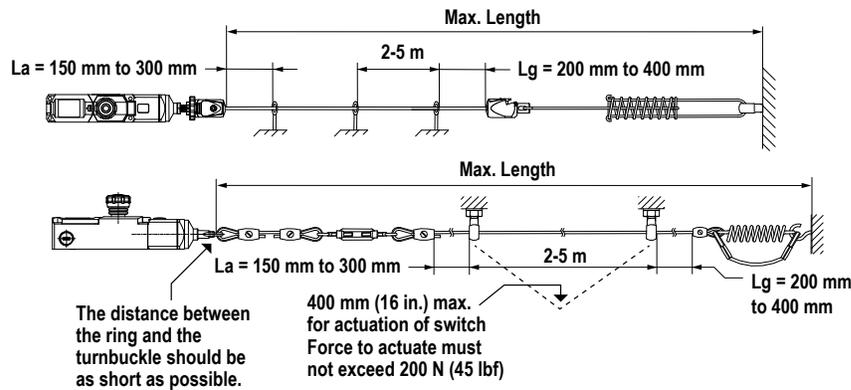

Figure 6. Assembly of Rope and Hardware
- Route the rope using pulleys (recommended) or eye bolts at each support point (securely/rigidly mounted) as described in Figure 6 on page 5.